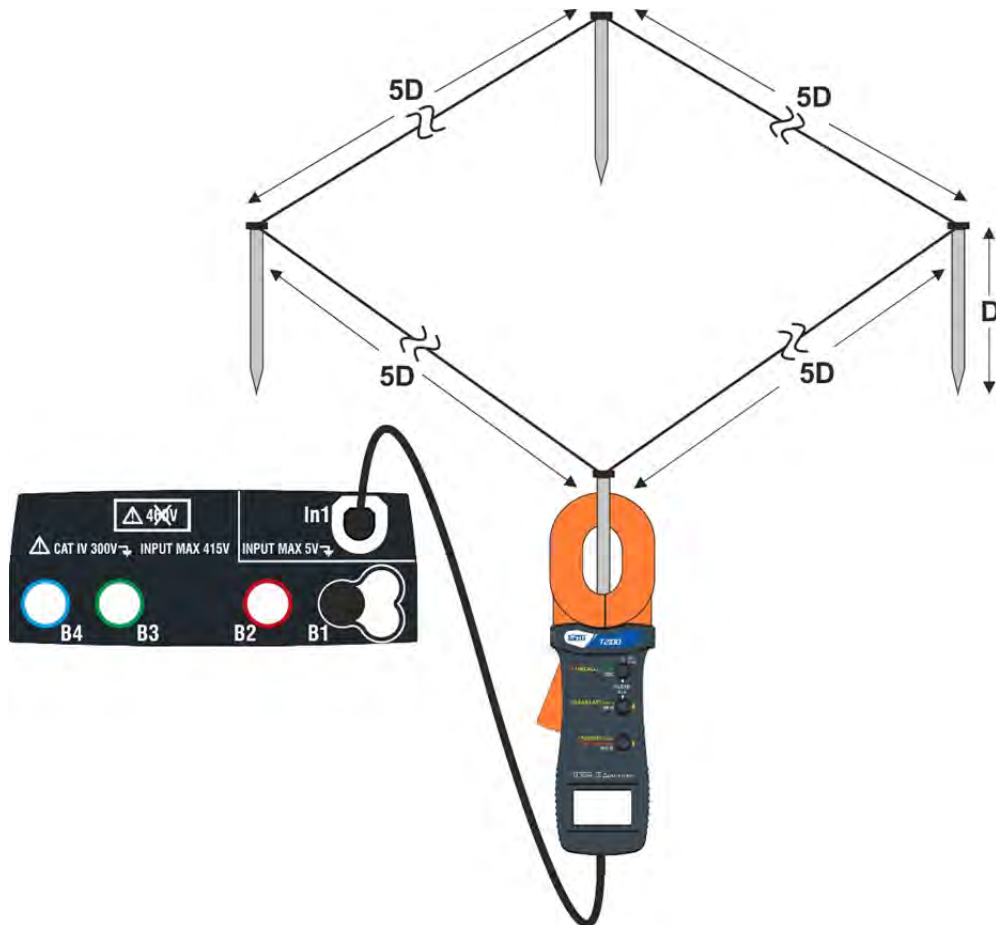

Fig. 32: Resistance measurement of single rods with clamp T2100
The measurement carried out by clamp T2100 can be used to evaluate single rods resistance values within an earth installation without disconnecting the rods, **assuming they do not affect each other** (see Fig. 32).
4. Connect the clamp to the first rod of the earth network considered as shown in Fig. 32. Note the value of the resistance in the **R** field and press the icon to insert this value in the calculation of parallel resistance and increase the **N** parameter by one unit (N=1)